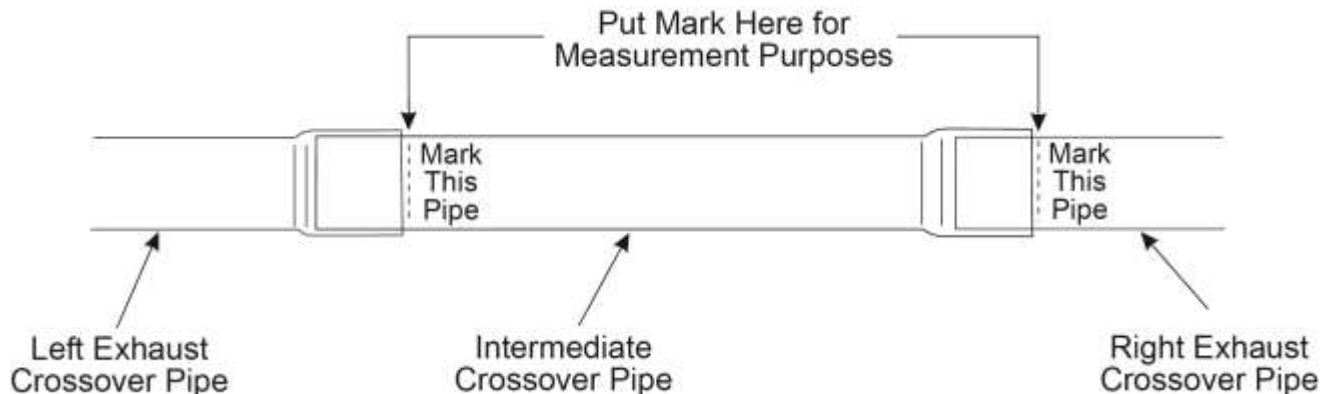

Figure 2
NOTICE: During the 250-Hour Exhaust System Inspection (in this chapter) or anytime the exhaust system is removed, mark the exhaust pipe in accordance with Figure 2. You will use the marks to measure the slip joint engagement.
- A. Mark the exhaust pipe in accordance with Figure 2. You will use the marks to measure the slip joint engagement.